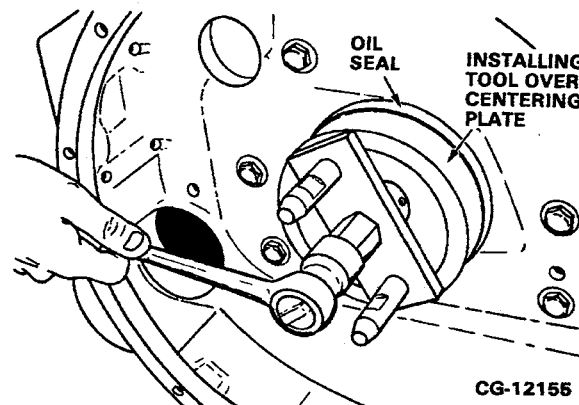

Figure 7.15. Install Seal and Wear Sleeve
- d. Position the oil seal and wear sleeve over the centering plate and onto the crankshaft flange. Place the installer portion of ZTSE-4272 over the centering plate and studs. Turn the forcing nut on the installer tool until the seal and sleeve is seated in the bore. Refer to Figure 7.15.